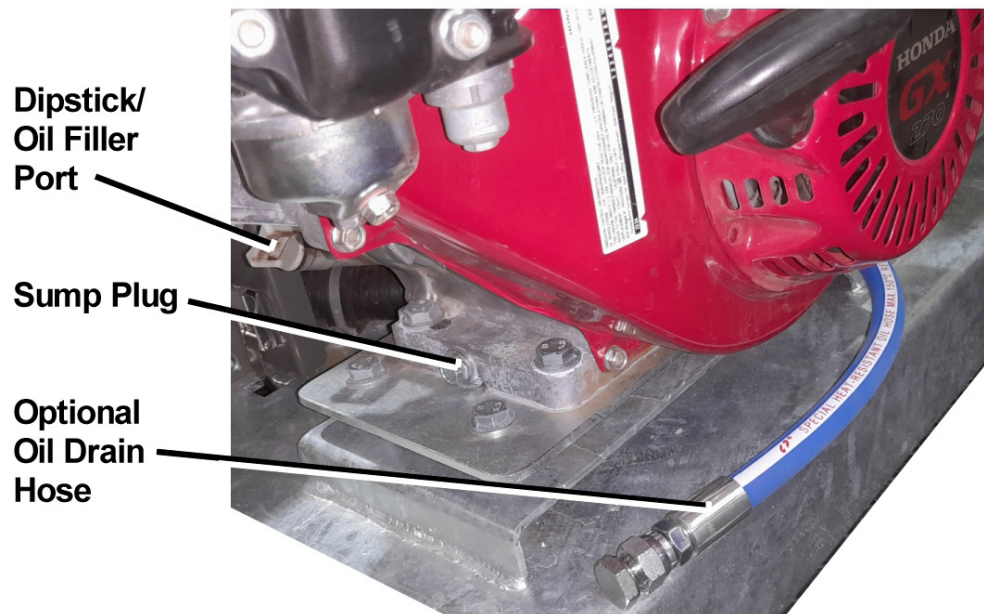

Figure 13 – Engine Oil Drain Options
- a. If the optional engine oil drain hose is fitted (see Figure 13), raise the end of the hose above the engine before removing the plug. Carefully lower the drain hose, capturing the used oil into a suitable container. When drained, reinstall the drain hose plug, tightening firmly.